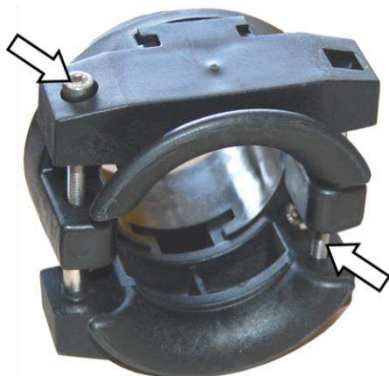

Fig.60: Strain relief
2. If applicable, ensure that the screws of the strain relief have been tightened (Fig. 60 /arrows).